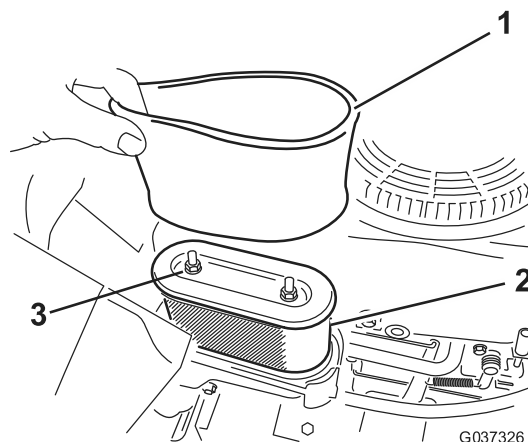

Figure 17
4. Remove the 2 nuts securing the filter assembly to the housing (Figure 17).
1. Install the foam filter onto the paper filter (Figure 17).
3. Secure the filter assembly to the housing using the 2 nuts (Figure 17).